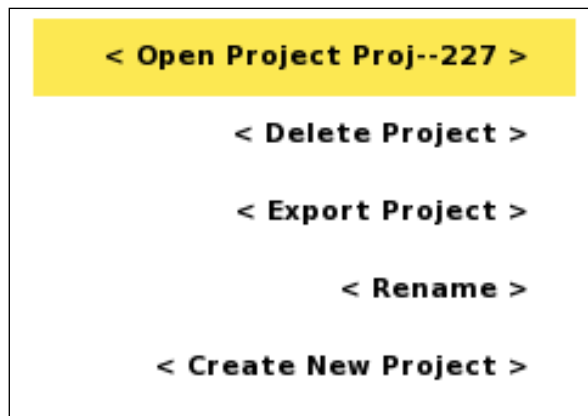

Figure 16 *Project* Option menu with *Open* item highlighted
- Press <Options> and the option menu (Figure 16) will be shown